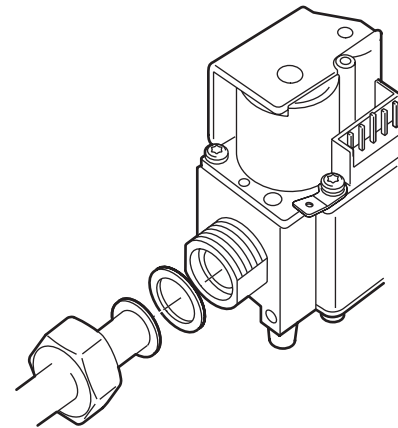

Fig. 4. External thread connection with nut and flat sealing ring
- With 1/2" nut and flat sealing ring for pipe 14 mm (see fig. 4.)
- With 1/2" nut and flat sealing ring for pipe 15 mm (see fig. 4.)
- ⑤ With $\frac{3}{4}$ " nut and flat sealing ring for pipe 15 mm (see fig. 4.)
- ⑥ With $\frac{3}{4}$ " nut and flat sealing ring for pipe 18 mm (see fig. 4.)